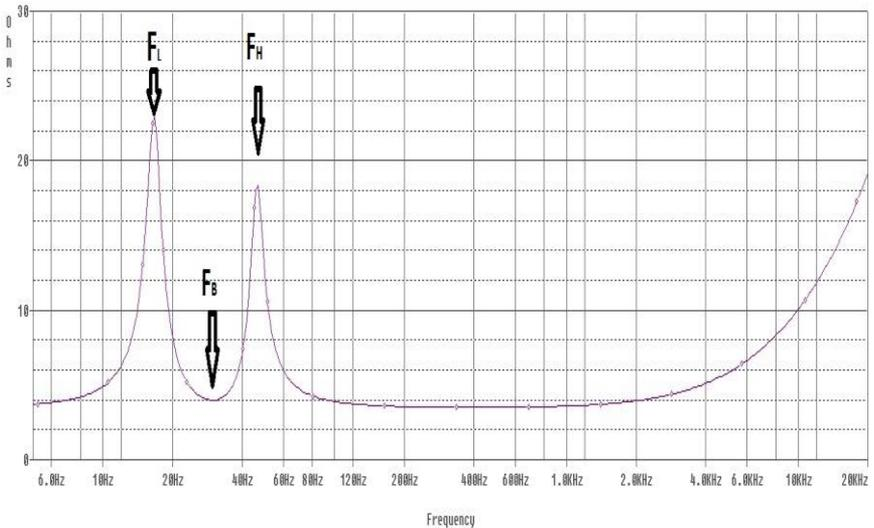

Figure 5
5. Continue increasing the frequency slowly until a **second** peak in the impedance is found. Let us call this frequency peak f_H . Ported enclosures have two impedance peaks, see Figure 5.
8. Figure 5 below shows the impedance curve of a 12 inch woofer in a ported box tuned to 30 Hz. The minimum impedance between the two peaks is f_B , the tuning frequency. This is the frequency at which the port has the highest air velocity, and the subwoofer has the lowest excursion.
Referring to Figure 5, f_B represents the tuning frequency of the system. This is the frequency at which the passive radiator has the highest excursion and the active driver has the lowest excursion.